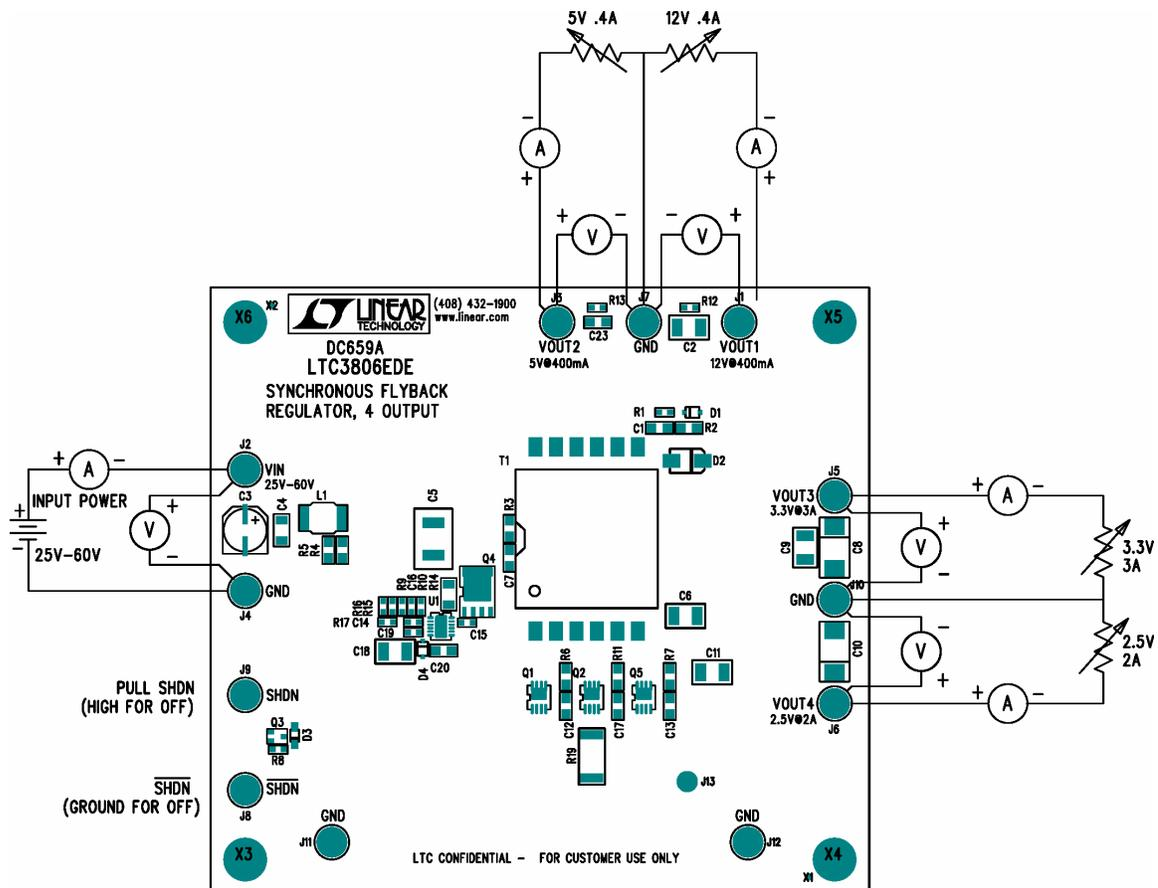

Figure 1. Proper Measurement Equipment Setup
Demonstration circuit 659 is easy to set up to evaluate the performance of the LTC3806. Refer to Figure 1 for proper measurement equipment setup and follow the procedure below:
1. With the power off connect the input power supply and the output loads as shown in Fig.1